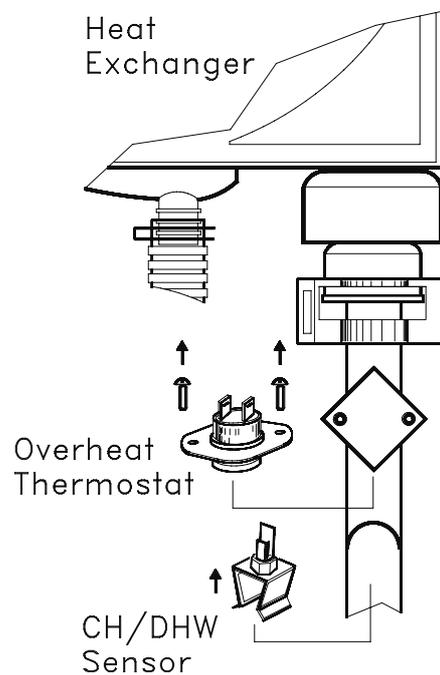

Fig.44
**8.18 TO REMOVE/REPLACE THE CENTRAL HEATING AND/OR DOMESTIC HOT WATER THERMISTOR (Fig.44).**
**8.19 TO REMOVE/REPLACE OVERHEAT THERMOSTAT (Fig.44).**